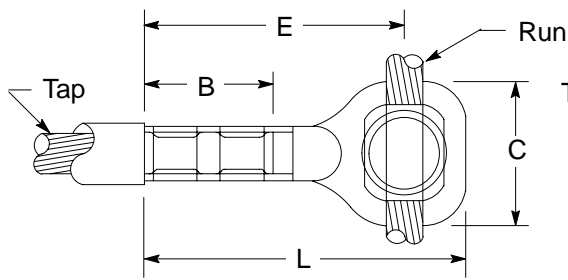
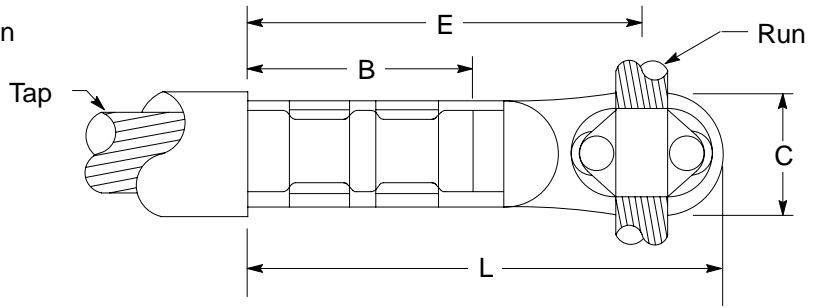

Figure 29
Figure 30
Table 35 Tap Connectors – Tee-Type (copper-to-copper, for circuits 5,000 V or lower) (Figure 29 and Figure 30)
1. If Tee Connectors, shown in Figure 29 and Figure 30 are to be attached to an aluminum overhead conductor run, use a short length of bare copper conductor between the connector and the aluminum conductor, and attach it with a fired wedge per Document 066194.